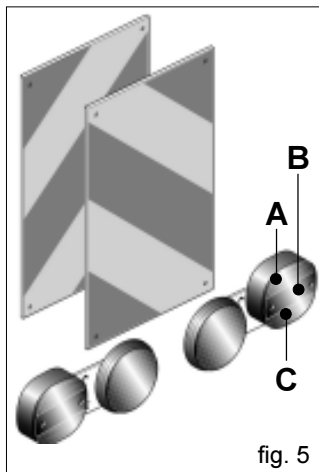

fig. 5
- 37) When the dimensions of carried or partially-carried equipment conceal the tractor's signalling and lighting devices, these must also be installed on the equipment itself, in conformity with regulations of the highway code of the country involved. When in operation make sure that the lighting system is in perfect working order. It is also important to remember that the correct signalling sequence of the headlights includes (Fig. 5):